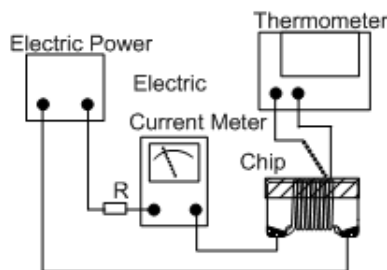

Fig.5.3.5-1
- d. Definition of Rated Current (Ir): Ir is direct electric current as chip surface temperature rose just 20 against chip initial surface temperature (Ta) (see Fig. 5.3.5-2).